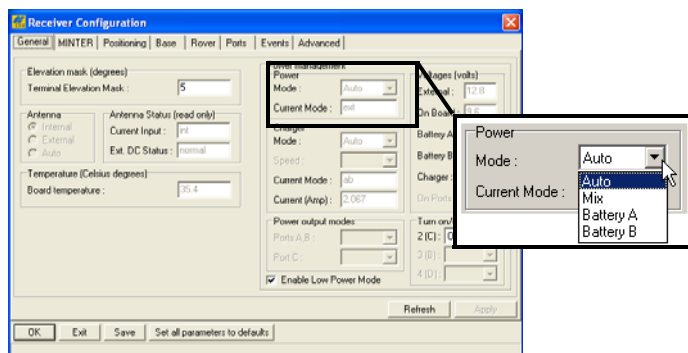

Figure 2-9. Select Power Mode
3. Select the *Power Mode* drop-down list to set the power source (Figure 2-9). *Current Mode* displays the current power source; if using the cradle, it will show "extbat."